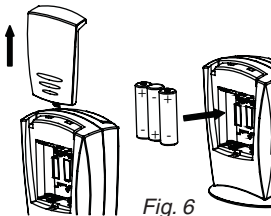

Fig. 6
Remove battery compartment cover and insert three LR6 (AA) alkaline batteries as shown in Fig 6.
First remove decorative cover and replace with three LR6 (AA) alkaline batteries. (Fig 6) When replacing batteries the chime is still programmed and can be used straight away.